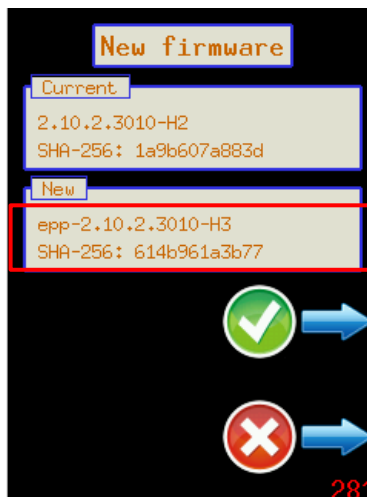

Figure 4-45 Firmware name and its SHA-256 digest for new firmware upon upgrade
**IMPORTANT:** Before any firmware upgrade, the LCD will display a SHA-256 digest in form of a unique code. This code is used to verify whether the firmware file being uploaded is legitimate. The reference can be obtained from firmware release notes or by contacting the Protecta Application department. For a legitimate upgrade, the SHA-256 code displayed on the screen should match with the code provided in the release notes for the specific firmware. In Figure 4-45 below, 614b961a3b77 is the SHA-256 digest for firmware version 3010-H3.